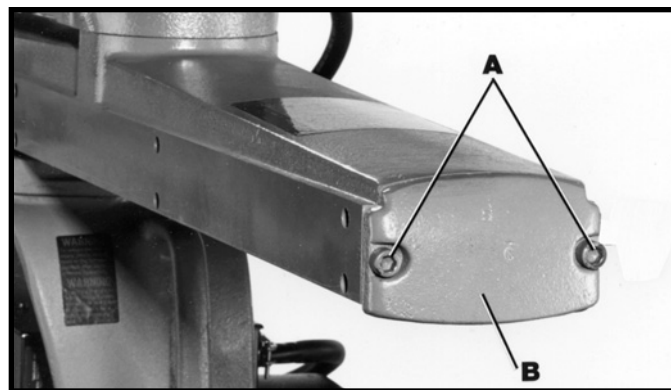

Fig. 11
4. Replace end cap (B) that was removed in **STEP 1** (Fig. 11).